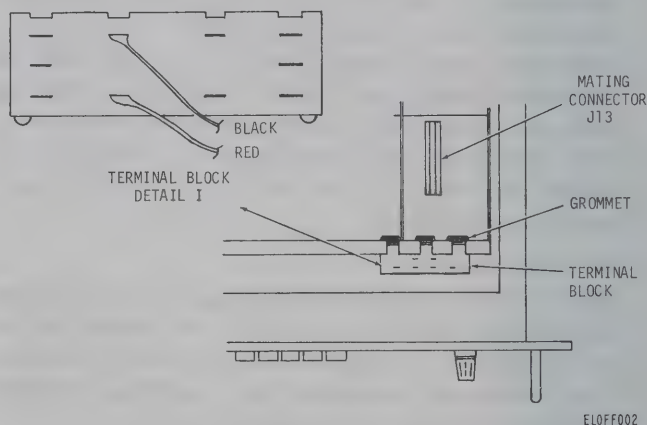

Figure 7-1. Ac converter, location diagram.
(3) Use figure 7-1 as a guide and locate the ac converter assembly position in the voltmeter.
(4) Align the ac converter assembly with the card guides at front and rear card bulkheads. Plug the ac converter assembly into mating connector J13. Make sure that the board edge connector and mating connector are fully engaged.
(5) Route the cable assembly from the ac converter assembly through the rubber grommet above the front card guide.
(6) Attach red and black wires to terminals of grey terminal block at front bulkhead. Refer to terminal block (I, fig. 7-1) for connecting points.
(7) Install the replacement guard cover. Set the input coupling switch, which can be reached through the guard cover, to ac or dc.
(8) Reinstall the top cover.
(9) The voltmeter can now be used to make true rms voltage measurements.
(3) Use figure 7-1 as a guide to locate the ac converter assembly position in the voltmeter.
(4) Disconnect red and black wires from terminals of grey terminal block at front bulkhead.
Refer to terminal block (I, fig. 7-1) for connection points.
(1) Align the ac converter with the card guides at the front and rear card bulkheads.
(2) Plug the ac converter into mating connector J13. Be sure that the board edge connector and mating connector are fully engaged.
(3) Be sure that the cable assembly from the ac converter is routed properly and the rubber grommet is in place.
(4) Secure the guard and top covers in place.
(5) Reconnect the voltmeter to the power source.
*b.* A detailed schematic diagram of the ac converter is shown in figure FO-12. For parts location, refer to figure 15, appendix B. Test point locations are shown on figure 7-1.